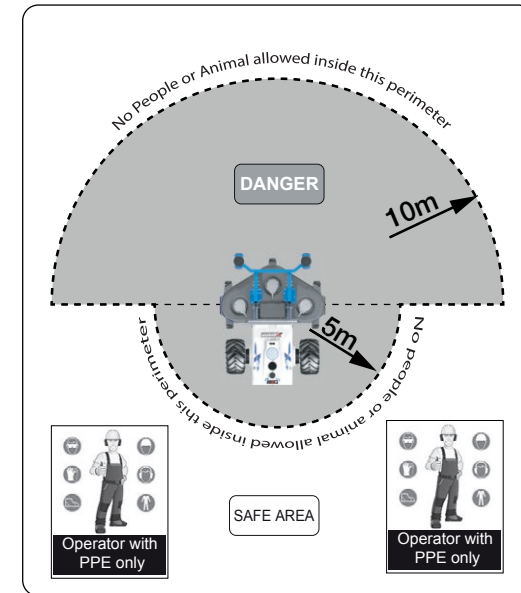

Fig. 7
- Do not allow any people or animal to approach the machine. A mis control of the drive can cause severe injury to the people or some object can be thrown out from the mower blade and hit somebody. The danger area is shown in FIG.7. Only the operator is allowed to stay inside the perimeter of 10 m Radius behind the mower only if he wears the Personal Protective Equipment prescribed